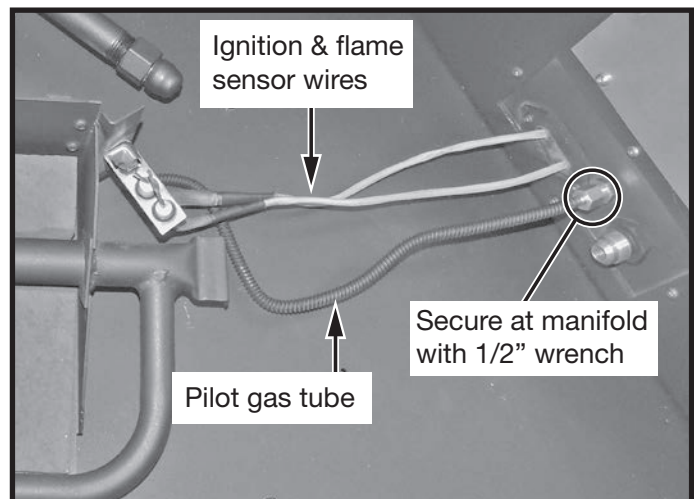

Figure 7: Lower burner gas and electrical connections.
5. Connect the pilot gas tube to the gas manifold using a 1/2" wrench and feed the ignition and flame sensor wires (Figure 7) through the bulk head plate by pushing them through into the control compartment. These wires will be connected to the IFC in a later step.